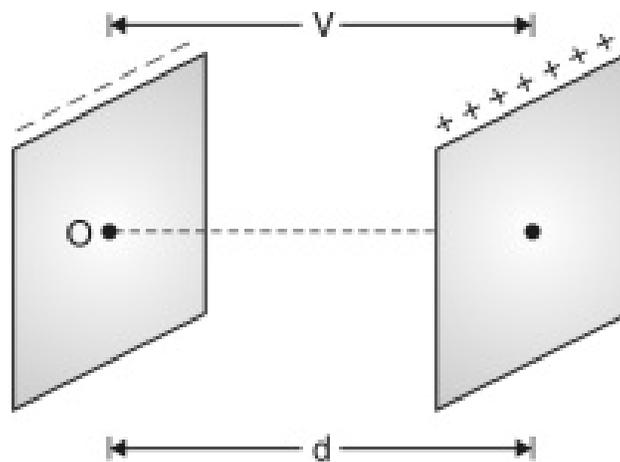

Fig. 7.1.1
arrangement shown in Fig. 7.1.1 we can derive the following.
- In the Fig. 7.1.1 two plates are separated by spacing 'd' and potential difference V. The plate on RHS is positively charged.